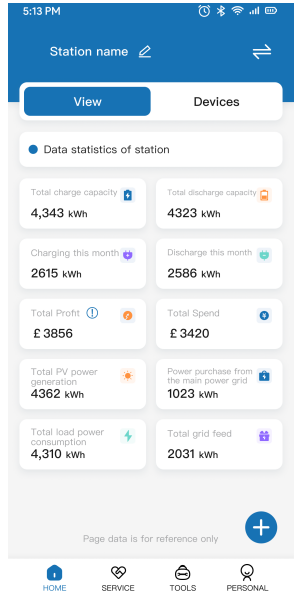

Fig. 4
- Please tap the "+" button to add devices to your station, as shown in Fig.4. Then you can directly turn to Step 3.2.2 Network configuration.